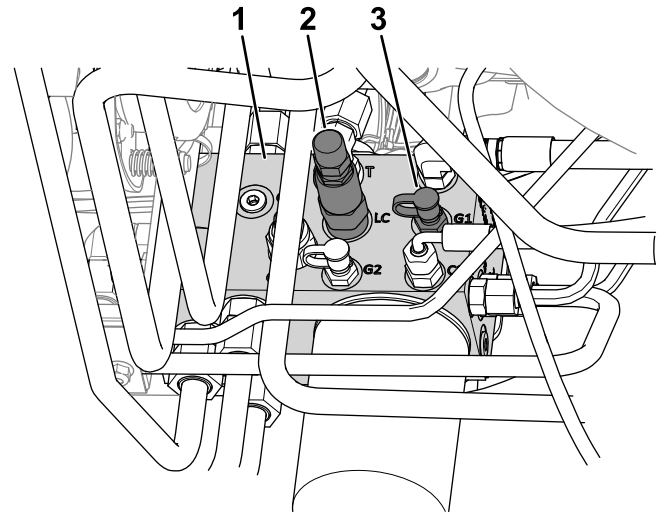

Figure 22
- Connect a pressure gauge to the test port (labeled G1; refer to Figure 22).
- Weight-transfer spool (LC)
- At the side of the lift manifold, remove the cap from the test port (labeled G1; refer to Figure 22).
- Loosen the jam nut at the end of the weight-transfer spool (labeled LC; refer to Figure 22).